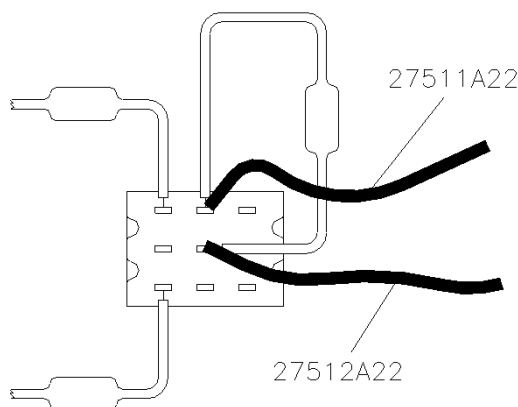

Figure 6
- 10.27** Solder wires 27511A22 and 27512A22 as shown in Figure 6.